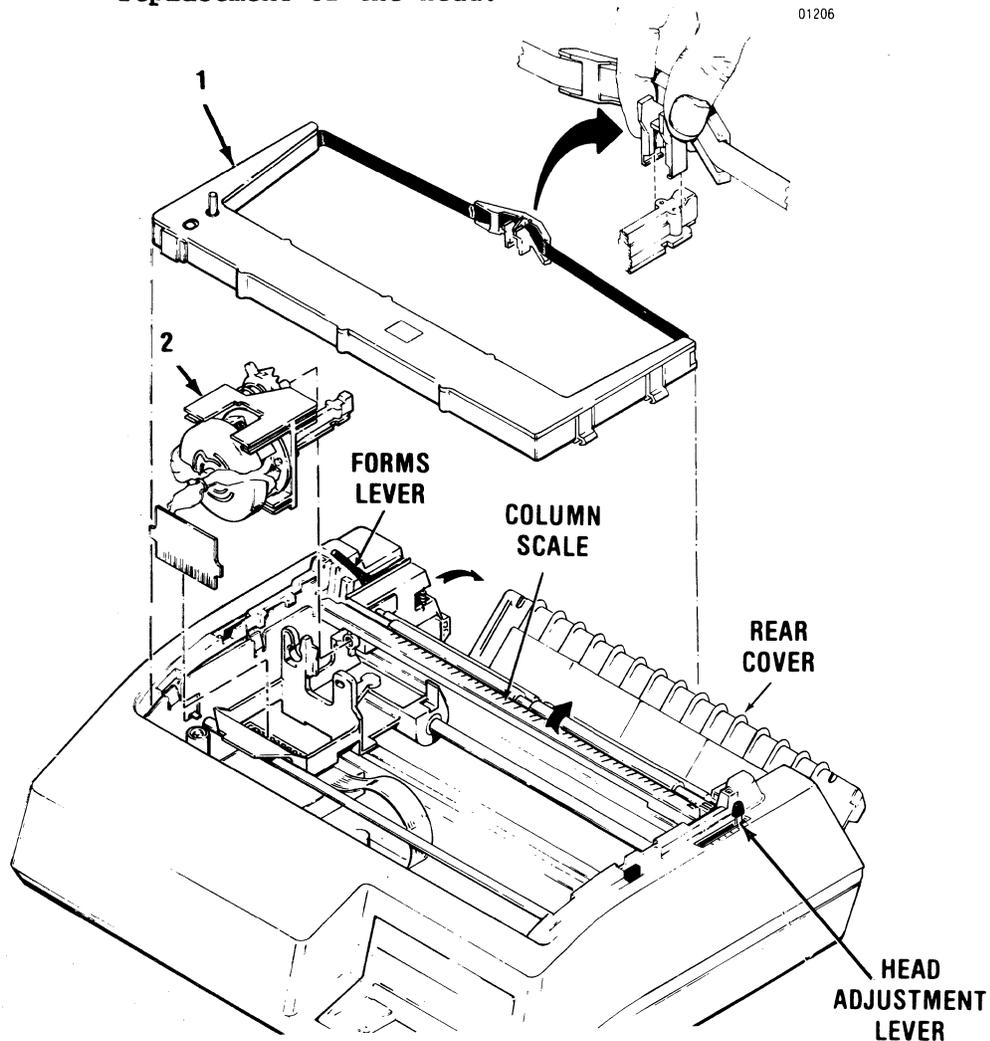

Figure 5-2. REMOVAL/REPLACEMENT, RIBBON CASSETTE AND GUIDE, PRINT HEAD ASSEMBLY
The ribbon cassette is mounted to the left and right side frames and the ribbon guide is mounted over the front of the print head. No tools are required to remove the cassette and guide. To remove the cassette and guide, refer to Figure 5-2 and perform the following steps:
The print head assembly, item 2 of Figure 5-2, attaches to the carriage and no tools are required to remove the print head. To remove the print head, refer to Figure 5-2 and perform the following steps:
9. To remove the print head (2) simultaneously pull the head towards the front of the printer and lift the head up and out of the printer.